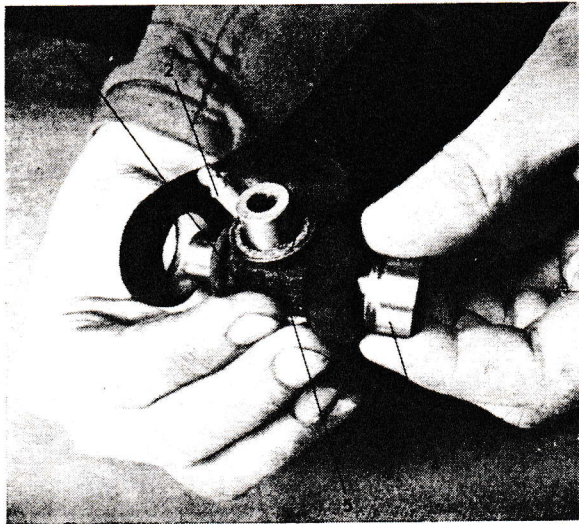

Fig. 11. Assembling universal joint.
2. Fit new cork seals (3, fig. 11) and cork seal retainers (5) on cross journals (cork seals at the outside).
3. Install cross (1) in the same position as before disassembly, fig. 11. Check that lubricator (2) is turned as fig. 11 shows.
4. Move cross in one direction as far as the needle bearing (4) can be fitted on the journal.